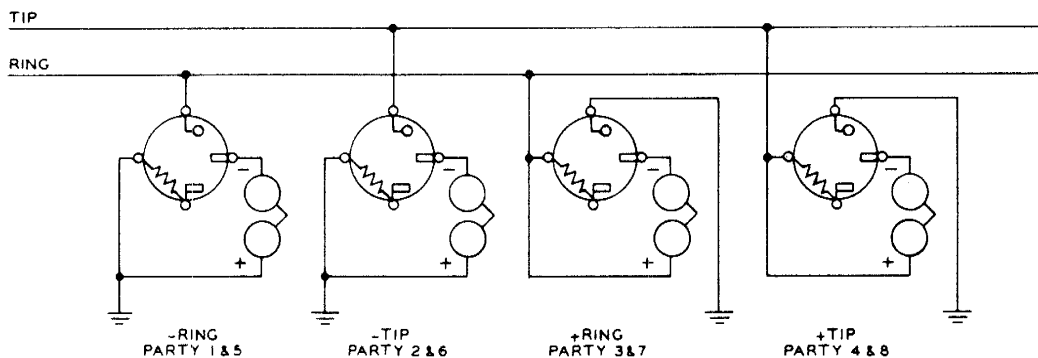

Fig. 4 — Four-Party Full Selective and Eight-Party Semiselective Tube Type Ringing Bridges
**4.02** Four-party full selective or 8-party semiselective ringing (Fig. 4) is accomplished by using sets employing a cold cathode electron tube in the ringing circuit.